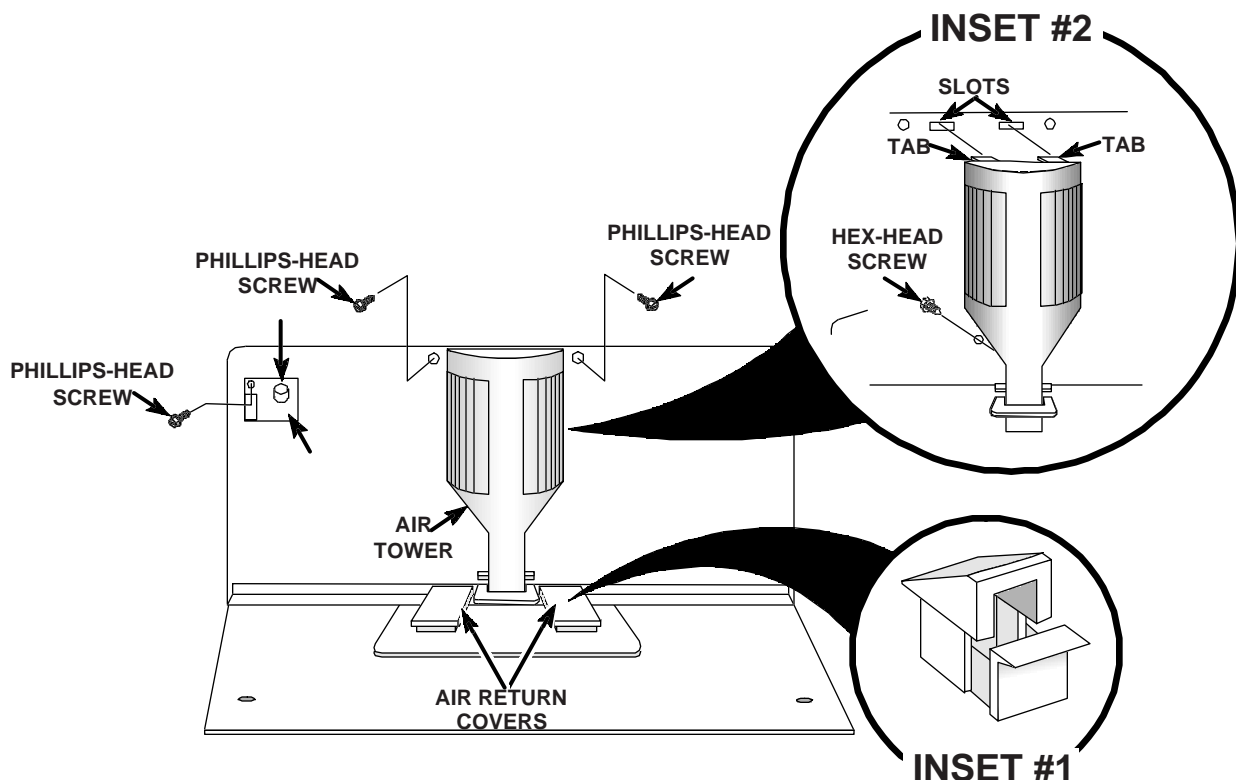

Fig. 75
Each Air Return Cover consists of two (2) sections. When lifting the Air Return Covers out of the freezer liner, hold the sections together so that the front section does not fall into the air return chute. (Fig. 75, Inset 1)
Remove the hex-head screws from the back of the Evaporator Cover, and release the two (2) tabs at the top of the Air Tower, and remove the Air Tower from the Evaporator Cover. (Fig. 75, Inset 2)